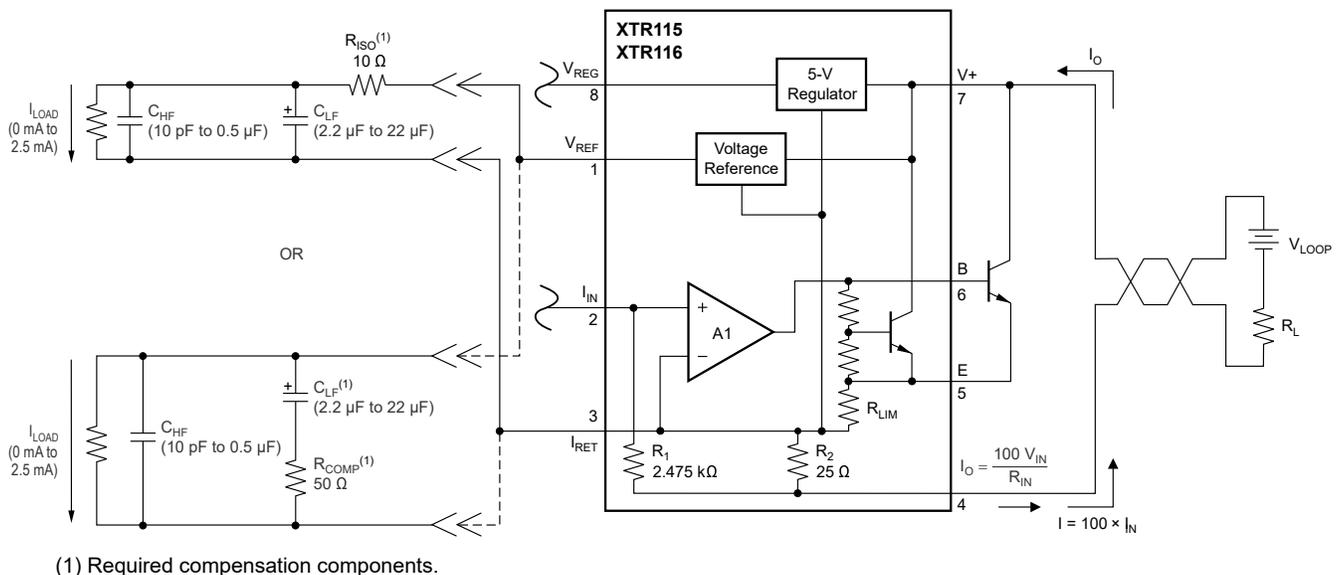

Figure 8-4. Stable Operation With Capacitive Load on V_{REF}
(1) Also see Figure 8-4.
(2) See Section 8.1.1.
Additionally, stability concerns apply to the V_{REF} reference buffer when driving capacitive loads. Figure 8-4 shows that two filtering capacitors are required, one C_{HF} of 10pF to 0.5 μ F and another C_{LF} of 2.2 μ F to 22 μ F. Either a series isolation resistance R_{ISO} or a snubber R_{COMP} is used, depending on application requirements.